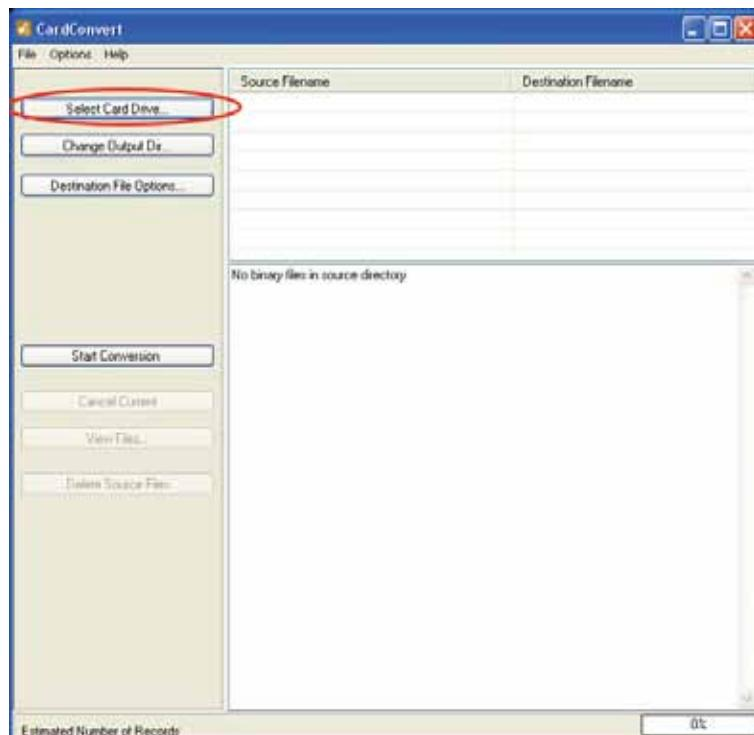

Figure 21. CardConvert window used for converting data logger memory card into a usable file.
- a) From the PC200W Tools menu, select **Card Convert**. This will open up the Card Convert Window (see Figure 21 on the next page).
- a) From the PC200W **Tools** menu, select **Card Convert**. This will open up the Card Convert Window (see Figure 21).